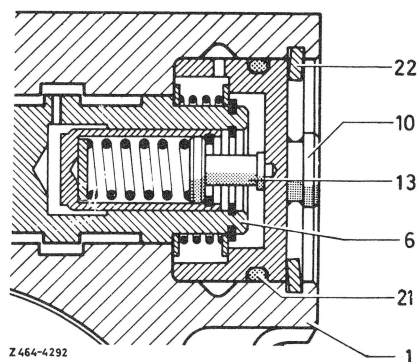

Fig. 22 Control valve version 1
24 Replace O-ring (21) on closing cover (10), then knock closing cover into steering case by means of a plastic hammer (Fig. 22 to 25).